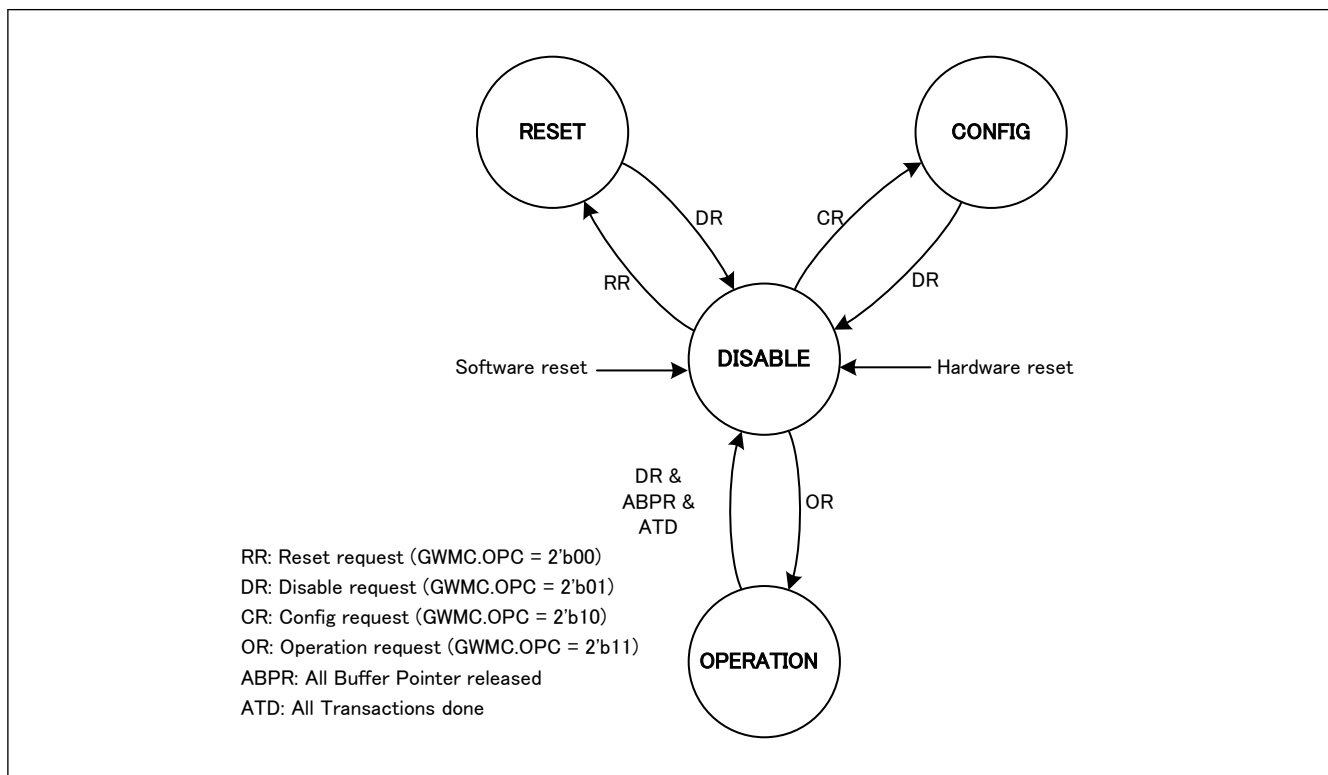

Figure 34.2 Operating mode transitions
Figure 34.2 shows the operating mode transitions.
- Software shall only trigger transitions shown to Figure 34.2.